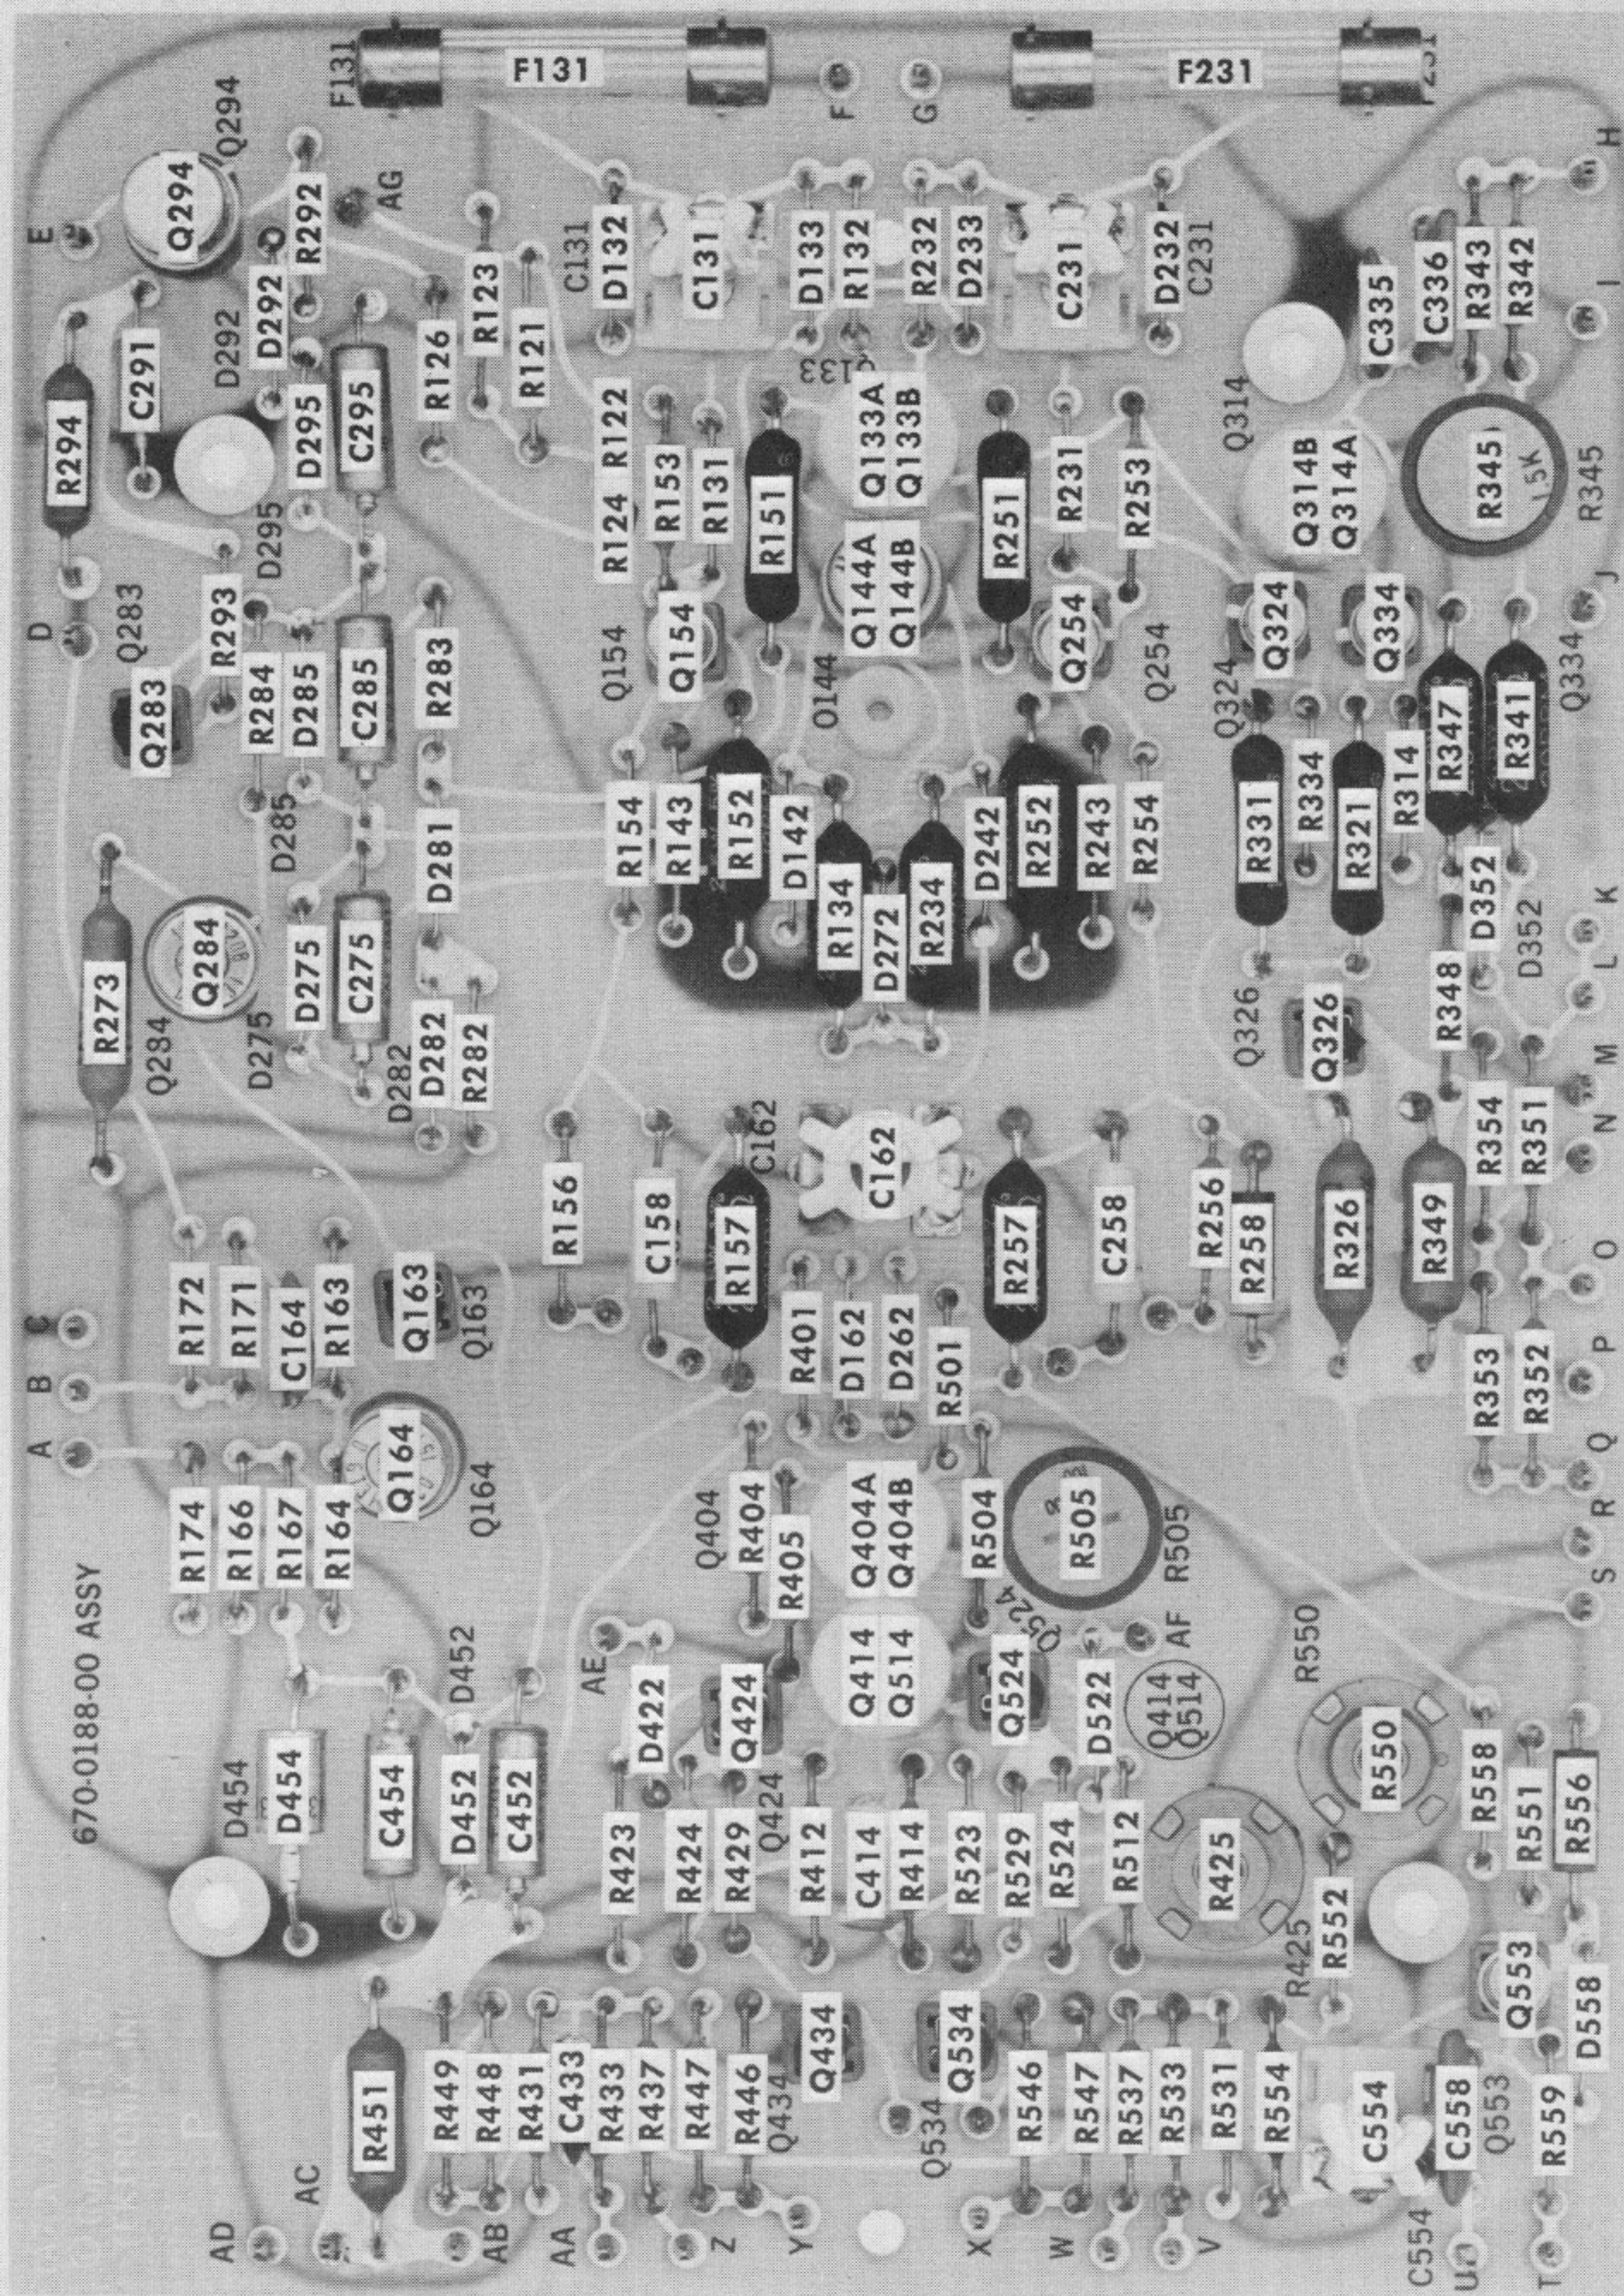

Fig. 4-3. Amplifier circuit board used in Type 1A7A.
Circuit Boards. Fig. 4-3, 4-4 and 4-5 show the circuit boards used in the Type 1A7A. Each electrical component on the boards is identified by its circuit number. The circuit boards are outlined with a blue line on the diagrams. The photographs of the boards used along with the diagrams will aid in locating the components mounted on the circuit boards and checking inter-connecting wiring to the boards.
6. Check Circuit Board Interconnections. After the trouble has been isolated to a particular circuit, check the pin connectors on the circuit board for correct connection. Fig. 4-3, 4-4 and 4-5 show the correct connections for each board.